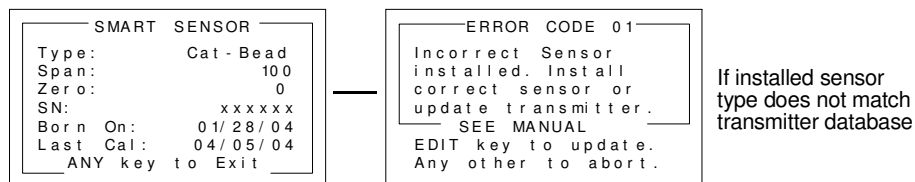

Figure 6-2: SMART SENSOR Recognition Screen
- Check the SPAN GAS VALUE setting and make sure it matches the calibration gas. (See Fig. 6-2)
To replace a sensor, review Fig. 6-2 and follow these steps (See Fig. 6-1):
The System Config group consists of two pages of menus as shown in Figure 6-2. Each item's description follows in this section.
**RADIO STATUS** opens another screen that shows if the GM ECx is In Range of the Server and what the battery power supply voltage is. Battery voltage is also displayed on the “EC INPUT PG. 2” screen shown in Figure 6-2.